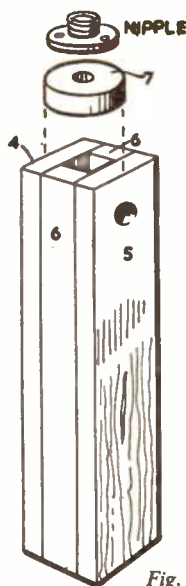
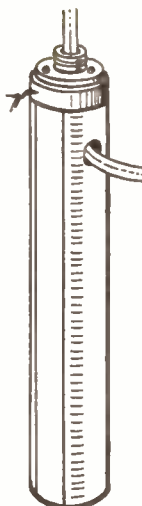

Fig. 2
Fig. 3
For the upright pillar, pieces (4), (5) and (6) are glued together as seen in Fig. 2. When dry, this assembly is rounded with a modelling knife to give the tubular shape shown in Fig. 3.
Now insert the flex through the hole in piece (5) and thread it through piece (7), which can then be glued to the top of the pillar (Fig. 3). Next screw the nipple of the bulb holder to piece (7), and this section is then ready to glue to the centre of the wheel.
Place the mirror at various distances and at various angles to the incident beam of light, each time marking on the paper the positions of the mirror and the incident and reflected beams of light as shown in Fig. 2.
Join the flex to the lampholder and fix the lampholder and lamp in the cigarette tin. Connect up the lamp to a battery (or other source of current) and a switch, and place the tin on a sheet of drawing paper on the bench. Mount the lens so that it receives the divergent beam which emerges from the cigarette tin and makes it into a parallel beam. Make this beam into a narrow beam by using the narrow slit in the cardboard as shown in Fig. 3.